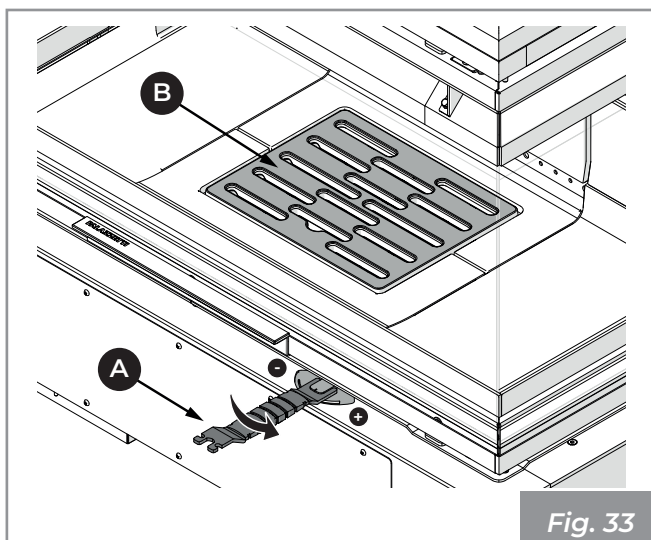

Fig. 33
- Using the cold handle supplied (A) open the primary air adjustment to maximum (+) (Fig. 33).
- Carefully place the pieces of wood in the combustion chamber, being careful not to completely cover the slots in the grate (B) (Fig. 33).
- Reduce the opening of the air intake using the dedicated cold handle (A) (Fig. 33) only when a good base of embers has formed.